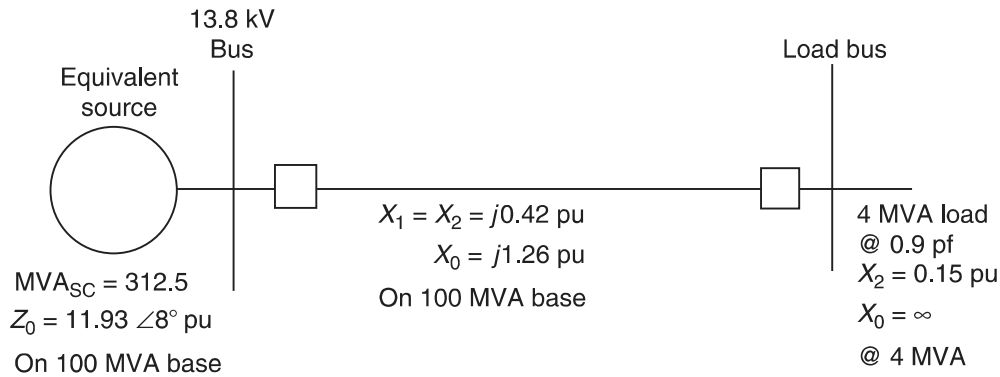

FIGURE P4.3
4.3 For the system shown in Figure P4.3